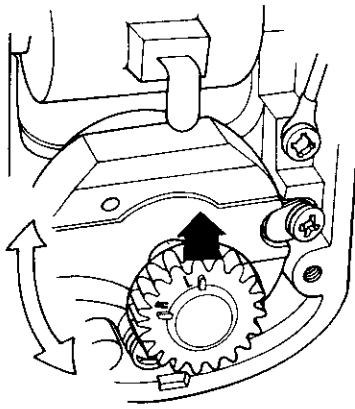

Figure 7.14
- B. Assemble the bearing bar to the distributor block as shown in Figure 7.14.
- B. Align the "L" or "R" (depending on the rotation of the magneto – look at data plate) on the rotor gear so that it points up, toward the high tension lead of the coil. Secure rotor shaft to prevent rotation during assembly. Alignment of rotor gear is critical. (See Figure 7.14).